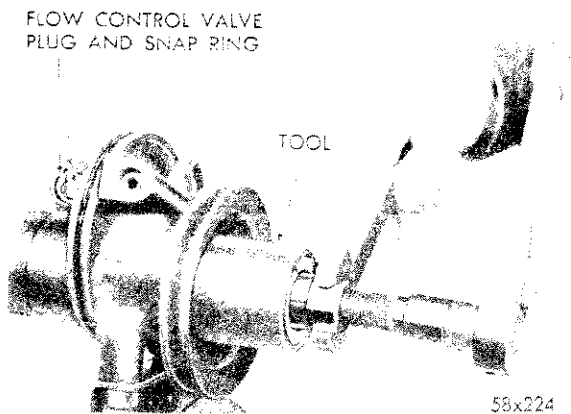

Fig. 48—Removing Pump Pulley
(1) Clean the exterior of the pump before disassembly.
(2) Remove the filler cap and drain the reservoir.
(3) Remove the brackets, reservoir screws, gasket and "O" ring.
(4) Using spacer washers between the front bracket and the pump, reinstall the front bracket for use as a holding fixture. Clamp the bracket in a vise (Fig. 48).
(5) Remove pulley with Tool C-3615 as follows:
d. Hold the nut from turning and turn the screw inward to remove the pulley (Fig. 48).